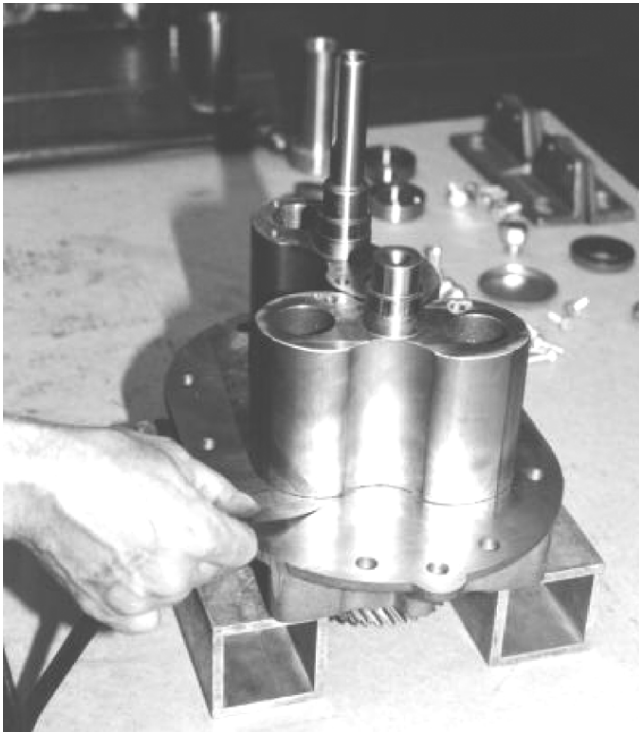

Figure 15. Checking Lobe to End Plate Clearances.
- h. If clearances check OK, put a spacer [25] and a shim [27] on each shaft. Timing shims that were removed should be put back on the shaft from which they were removed. Refer to Figure 15.
- k. Set dowel pins [9] in housing and position housing over the rotors and fasten with cap screws [14]. Check housing to rotor clearance. (Refer to Figure 15) A depth micrometer can be used.